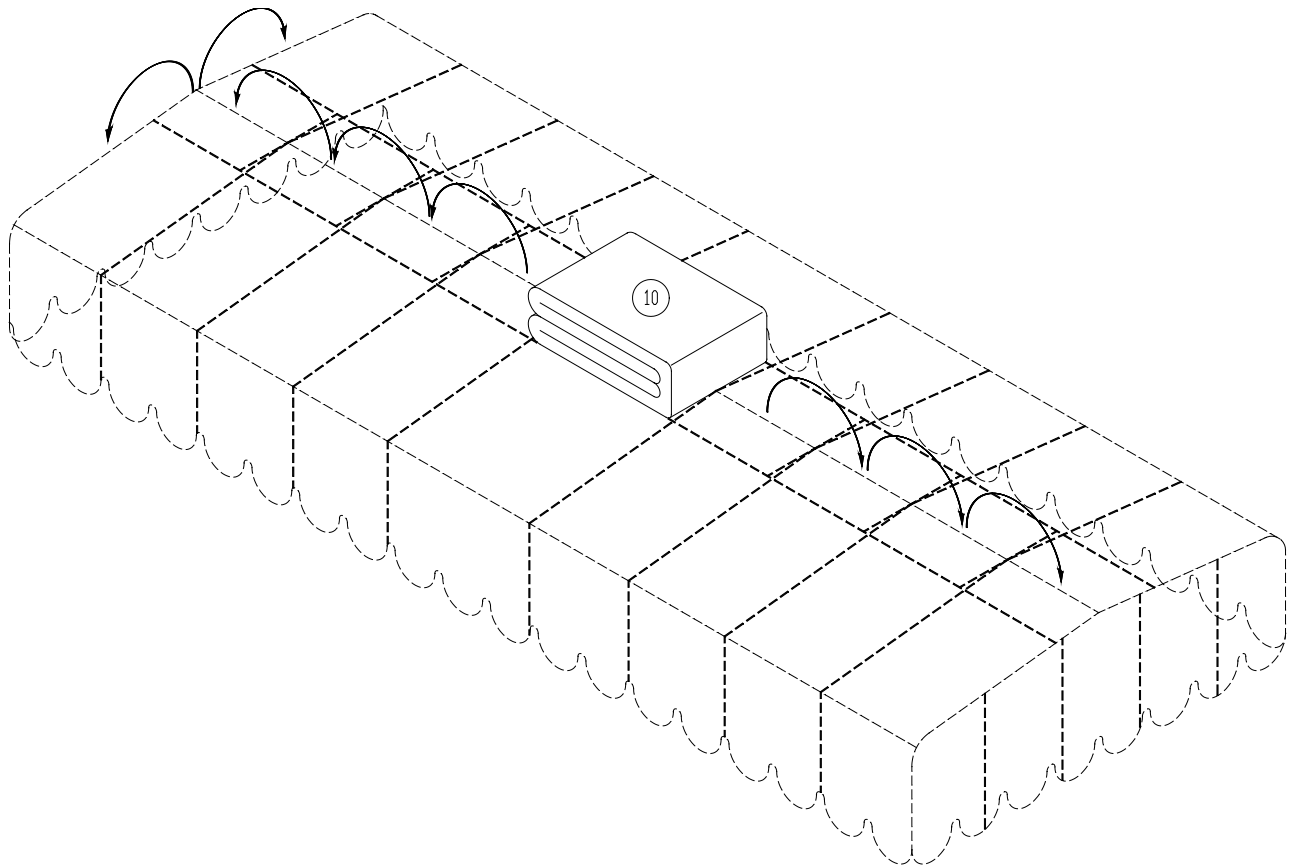

Figure 2-7.
14. Refer to **Figure 2-7**. Place the canopy fabric bundle on top of the canopy frame and unfold down the length of the frame; then unfold across the width. Pull fabric snugly over the frame.